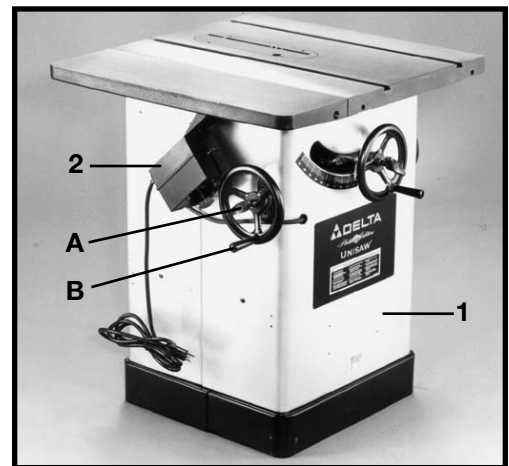

Fig. 1
Carefully unpack the saw and fence system from the shipping containers. Clean all loose parts and remove the protective coating from the machined surfaces of the saw table. This coating may be removed with a soft cloth moistened with kerosene (do not use acetone, gasoline, or lacquer thinner for this purpose). Figures 1 and 2, illustrate the saw and all loose items supplied with the machine. Figs. 3, 4, and 5, illustrate the items supplied with the fence system. IMPORTANT: The saw is shipped with the saw arbor in the 45 degree position. Loosen locking knob (A) Fig. 1, and turn handwheel (B) until the saw arbor is in the 90 degree position and remove the styro-foam packing from inside the saw cabinet. Tighten locking knob (A).